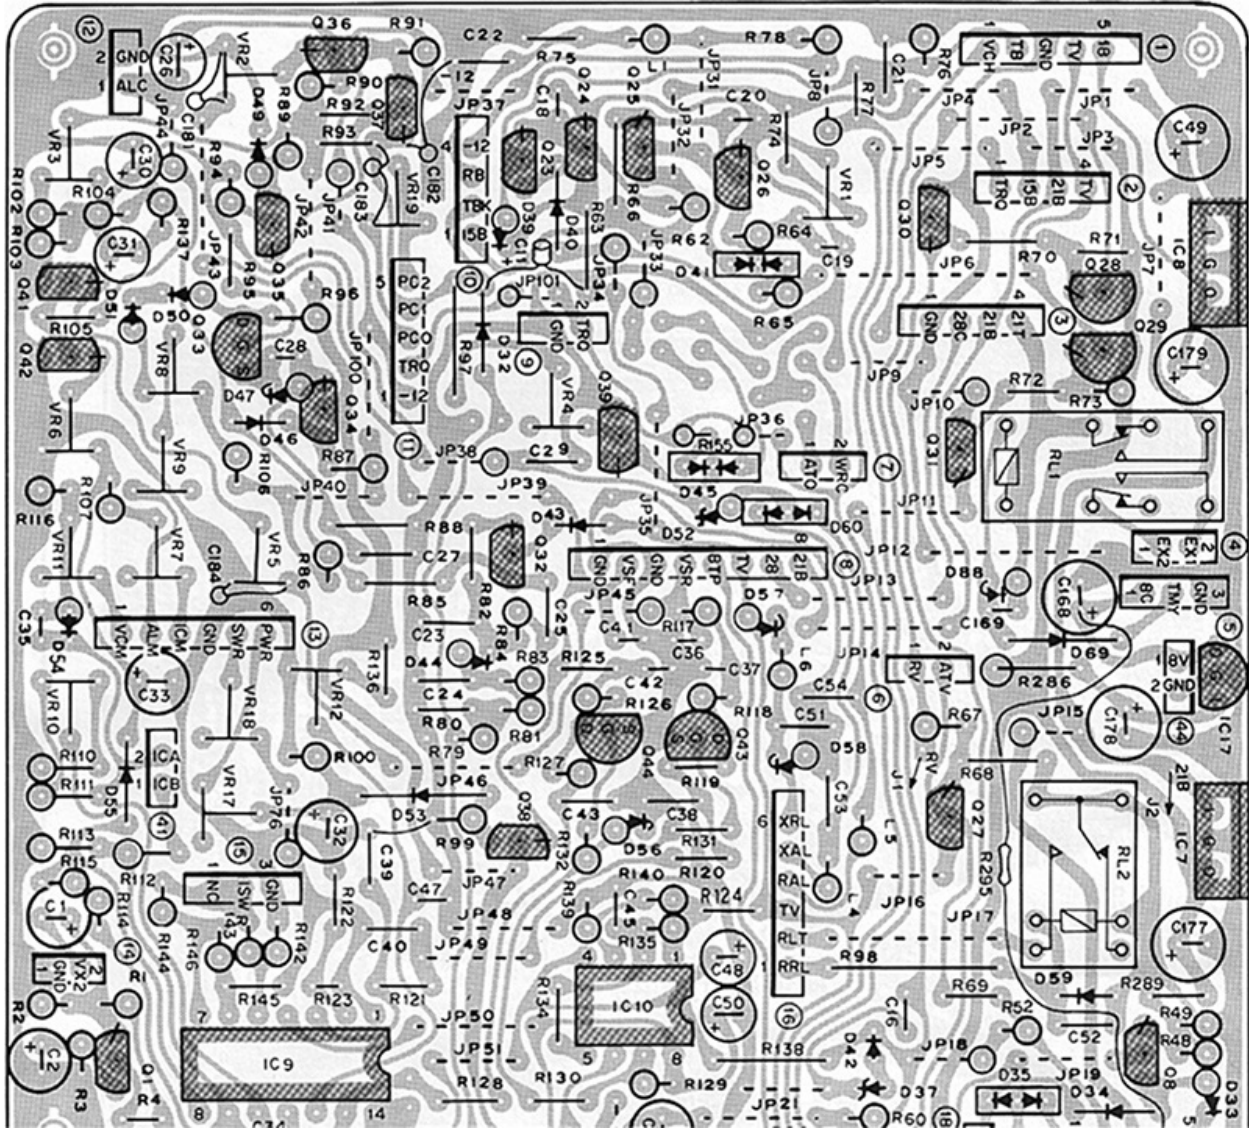

FIGURE 8-3 Pictorial diagram.
- *Pictorial diagram*. This uses drawings of the parts and shows their interconnections. The pictorials included in service manuals are really layout diagrams detailing the placement of components as they exist on circuit boards and chassis. This is the drawing of landmarks and where to find them (Figure 8-3).